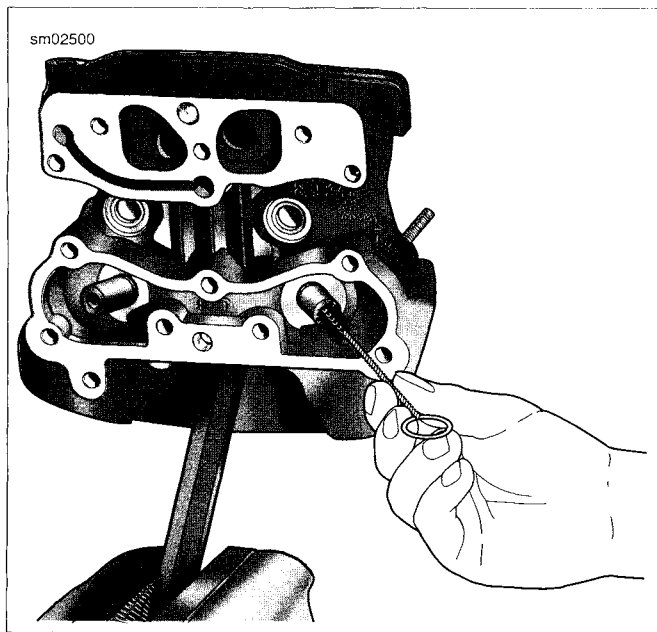

Figure 3-104. Scrubbing Valve Guide Bore
7. See Figure 3-104. Clean valve guide bore with the VALVE GUIDE CLEANING BRUSH (Part No. HD-34751).